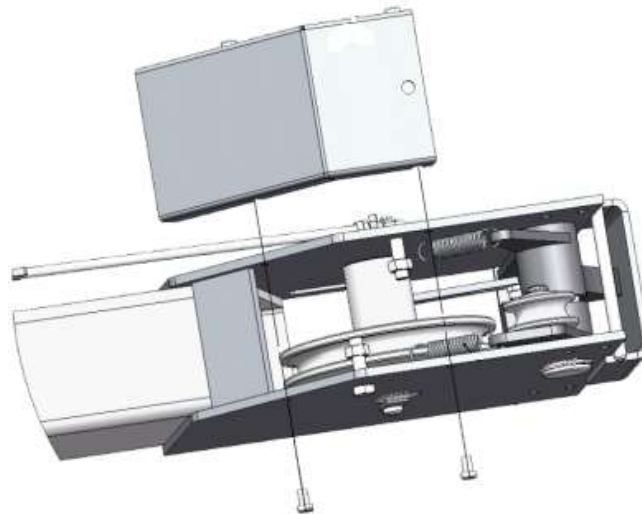

Figure 26
**Step 11** - Install spring and beam safety cover of Crossbeam (See Fig.26).